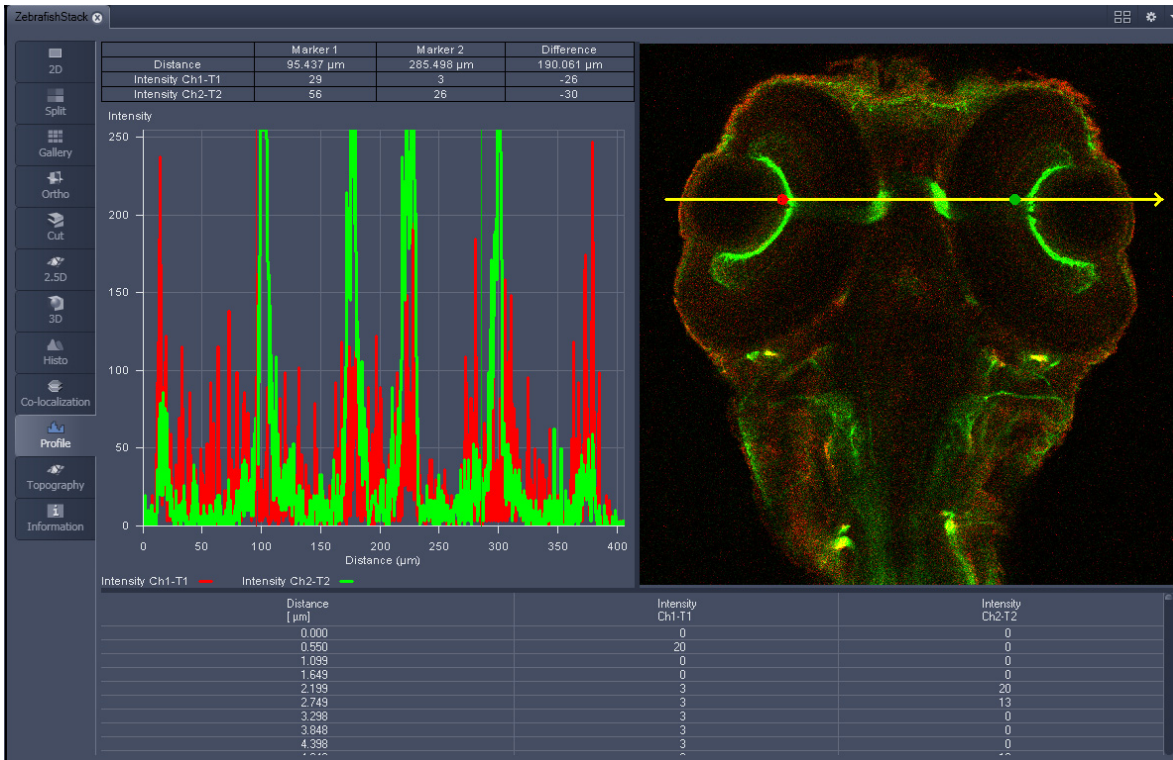

Fig. 235 Image Display - Profile View, Line Profile with markers
- Draw a Profile line in the image display to define a profile. The intensity curves are shown in a separate graph (see Fig. 235).